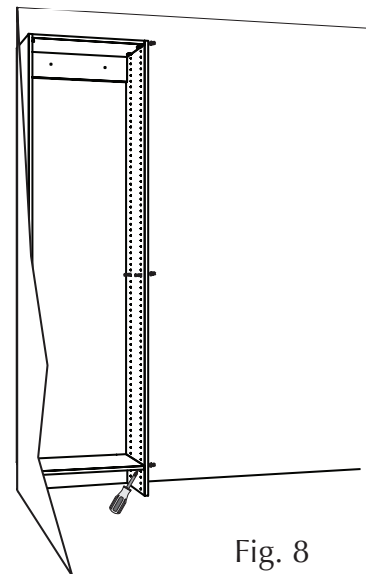

Fig. 8
8. Next, fasten the bottom fixed shelf by angling the shelf upwards and pushing the back cams over the studs in the back. (See Fig. 7b.) Use a screwdriver to turn each cam lock a full 180° clockwise. (See Fig. 7a and 7b.) Lower front of shelf and use a short-handled screwdriver to secure front cam locks. (See Fig. 8.)